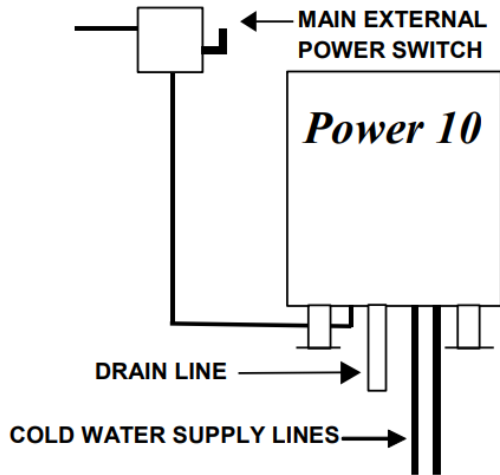

Figure 3-3
1. Install a main disconnect switch and a separate fuse or breaker for this appliance as shown in Figure 3-3. The fused disconnect switch is referred to as the “Main External Power Switch.”